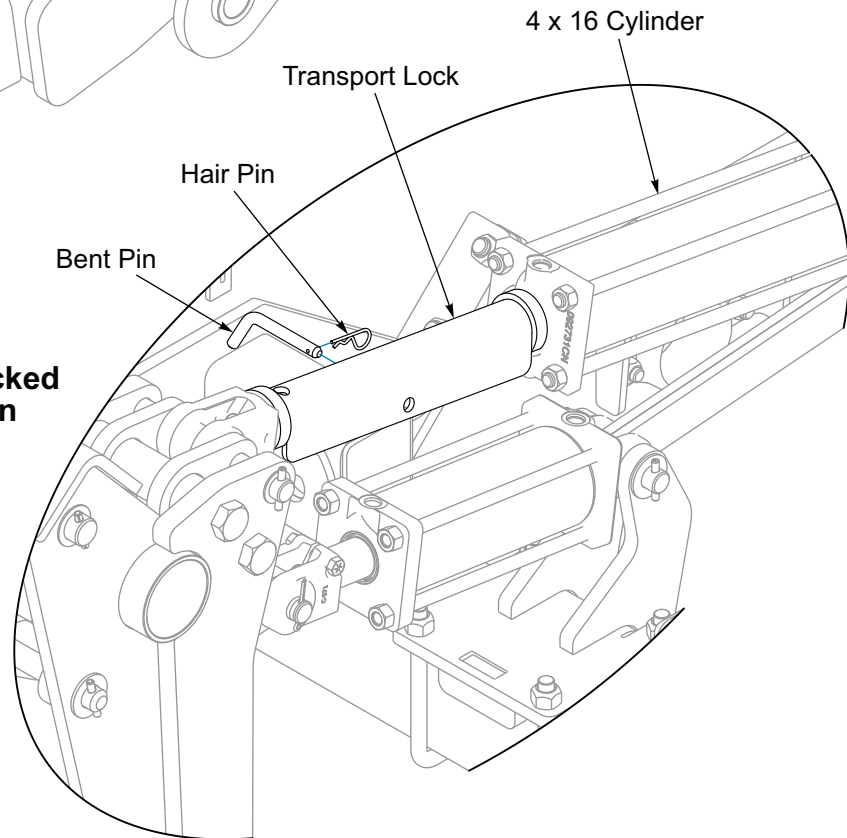

Figure 3-6: Hitch Leveler Lock Positions
4. Fully extend the Hydraulic Lift Wheel Cylinders and place the Cylinder Lockouts in the Transport Lock Position over the Cylinder Rods. Secure the Lockouts with the Lockout Pins. **See Figures 3-5 and 3-6.** Install Transport Lock over Leveling Cylinder. **See Figure 3-6.**
5. Remove Hitch Leveler Transport Lock, Bent Pin and Hair Pin from Hitch Leveler Cylinder and store it on Hitch Leveler Mast Tab. Install Bent Pin and Hairpin. **See Figure 3-6.**
4. Remove Hitch Leveler Transport Lock, Bent Pin and Hair Pin from Hitch Leveler Mast Tab and place Transport Lock over the Hitch Leveler Cylinder Rod. Install Bent Pin and Hairpin. **See Figure 3-6.**